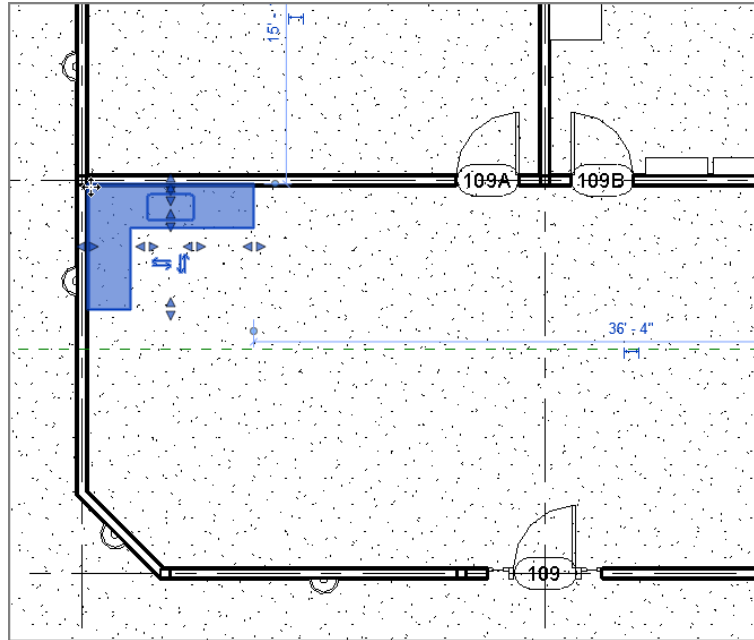

FIGURE 9.53: Adding the countertop
5. Open the Level 1 floor plan. Zoom in on the kitchen area, as shown in Figure 9.53.
6. Add the countertop (see Figure 9.53).